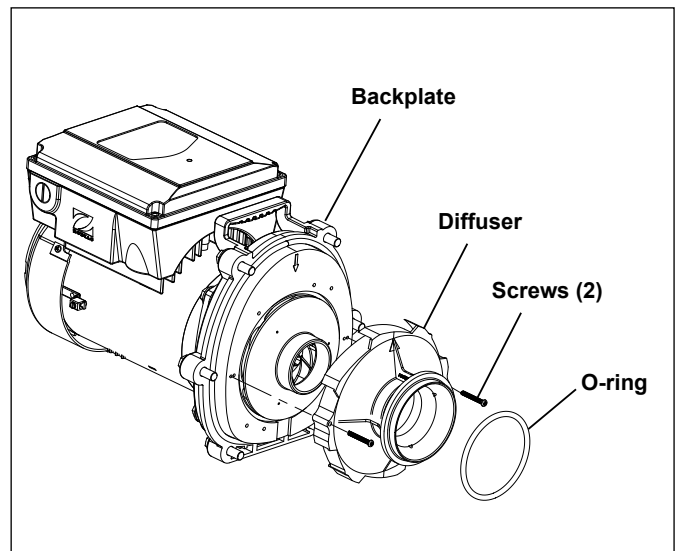

Figure 7. Remove the Diffuser
5. Using a No. 1 Phillips screwdriver, remove the two (2) screws holding the diffuser. (The diffuser is the cover over the impeller.) Then remove the diffuser (See Figure 7).